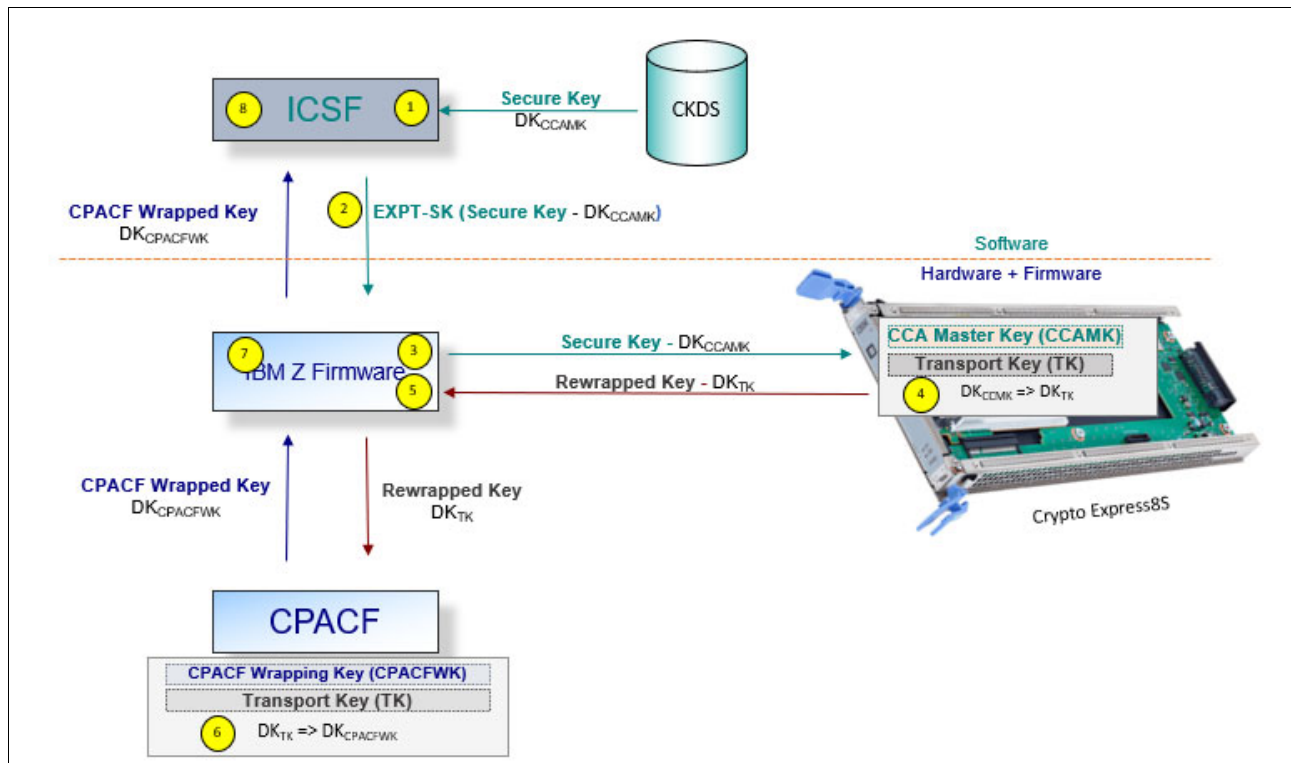

Figure 6-5 CPACF key wrapping for Crypto Express8S, and Crypto Express7S
Wrapping keys are generated during the clear reset each time an LPAR is activated or reset. No customizable option is available at Support Element (SE) or Hardware Management Console (HMC) that permits or avoids the wrapping key generation. This function flow for the Crypto Express8S, and Crypto Express7S adapters is shown in Figure 6-5.
A new segment in the profiles of the CSFKEYS class in IBM RACF restricts which secure keys can be used as protected keys. By default, all secure keys are considered not eligible to be used as protected keys. The process that is shown in Figure 6-5 on page 235 considers a secure key as the source of a protected key.